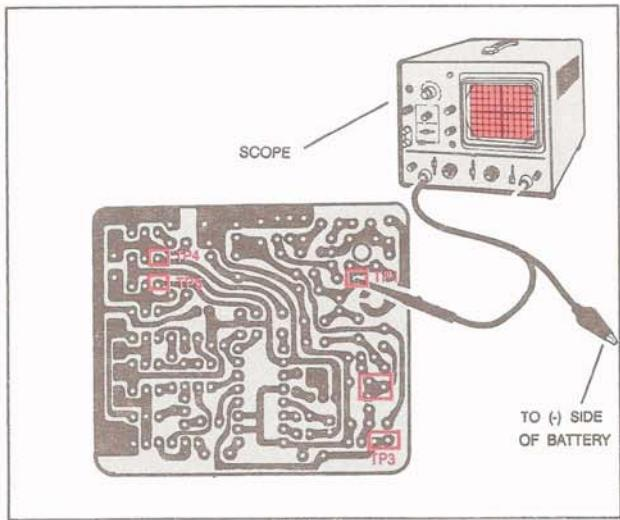

FIG. 73
- 3. Connect the scope probe to Test Point TP1 on the FOIL SIDE of the PC board and the ground lead to the (-) side (YELLOW LEAD) of the battery pack, as illustrated in Fig. 73.